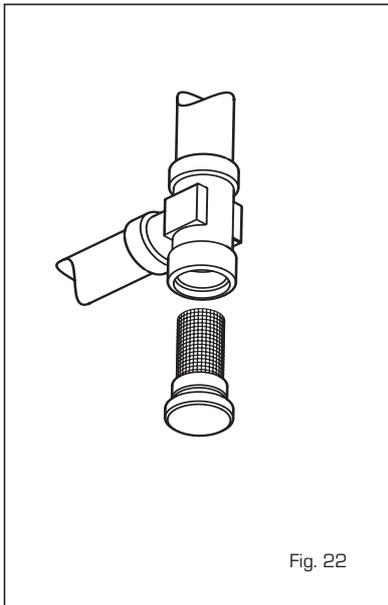

Fig. 22
4.5.2 Cleaning the filter “Aqua Guard Filter System” (fig. 22)
4.5.3 Operation floor drying (fig. 22/a)